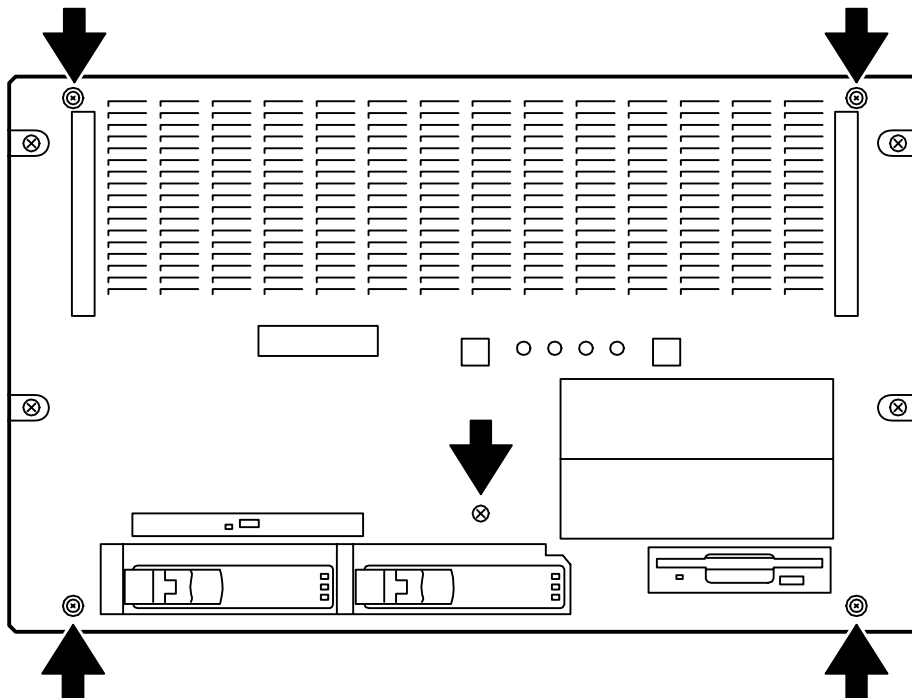

Figure 4-5. Removing the Front Bezel
4. Loosen the five thumbscrews securing the front bezel, see Figure 4-5.
To install the front bezel, perform the following (see Figure 4-5):